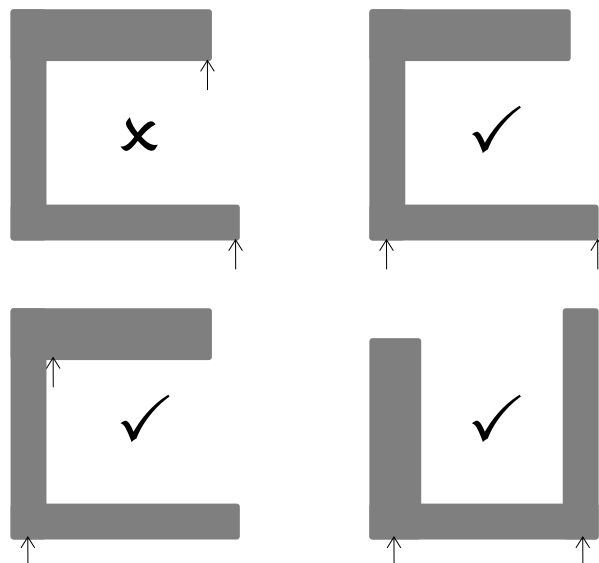

Figure 2. The correct way to lift the Agilent SPS 3
To avoid damage to the Agilent SPS 3, do not lift it by holding the X-axis arm. Always lift the Agilent SPS 3 from underneath the whole assembly (see Figure 2, Page 19, for holding positions).
- 6 Prior to lifting the Agilent SPS 3, refer to Figure 2 for the correct holding positions: